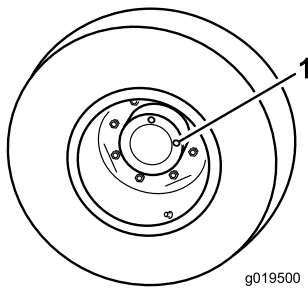

Figure 59
1. With the machine on a level surface, position the wheel so that 1 check plug (Figure 59) is at the 12 o'clock position and the other is at the 3 o'clock position.
1. Check plug (2)
2. Remove the plug at the 3 o'clock position (Figure 59). The oil level should be at the bottom of the check plug hole.